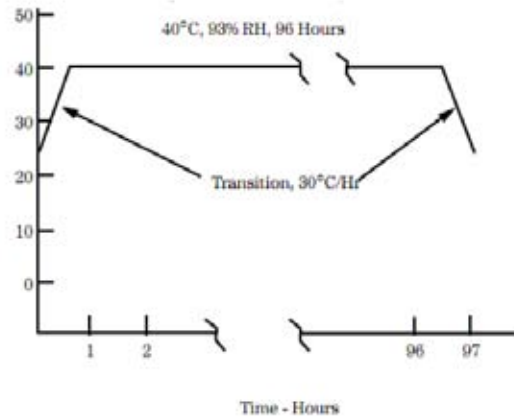

Figure 5 - High Relative Humidity Testing Profile [2]
The packaged equipment cannot sustain any damage or functional deterioration after it has been exposed to the high relative humidity environment. As in extreme temperature exposure testing, functionality testing is initially conducted under normal operating conditions. Then the equipment is packaged and placed into a test chamber at 23°C and 50% RH. At 40°C, increase the chamber's RH to 93% within two (2) hours and maintain for more than ninety six (96) hours. Transition the chamber's RH back to 50% at 40°C within two (2) hours. Figure 5 shows the criterion's temperature/relative humidity profile. A post-test equipment functionality test is performed, once the equipment has recovered to normal operating conditions.